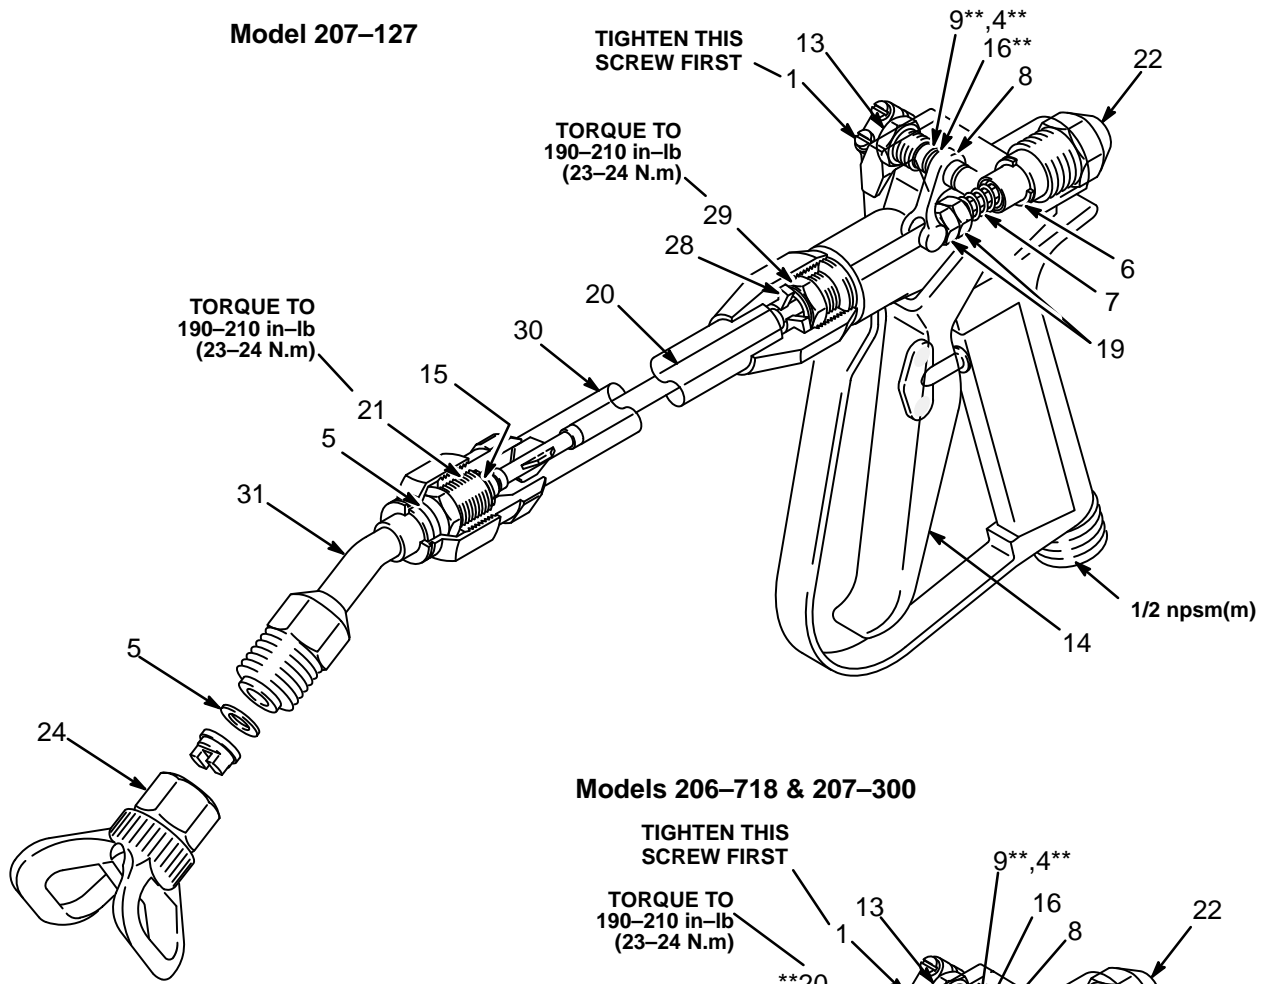

Fig 5
Gun Repair (See Fig 5 except where noted)
13. Position the forks of the trigger clamps over the cam shaft. Install the screws, tightening the inner ones first as indicated in Fig 5.
14. **Using the same number of turns noted in Step 4,** install the adjusting nut (19**) and then the lock-nut (18** or 19 as shown in Fig 5) on the needle.